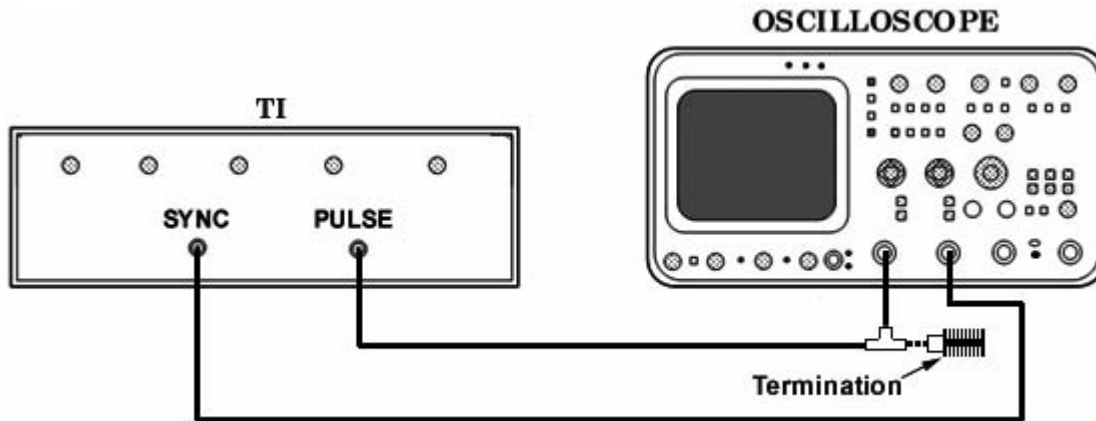

Figure 3. Amplitude-equipment setup.
- (1) Connect equipment as shown in figure 3.